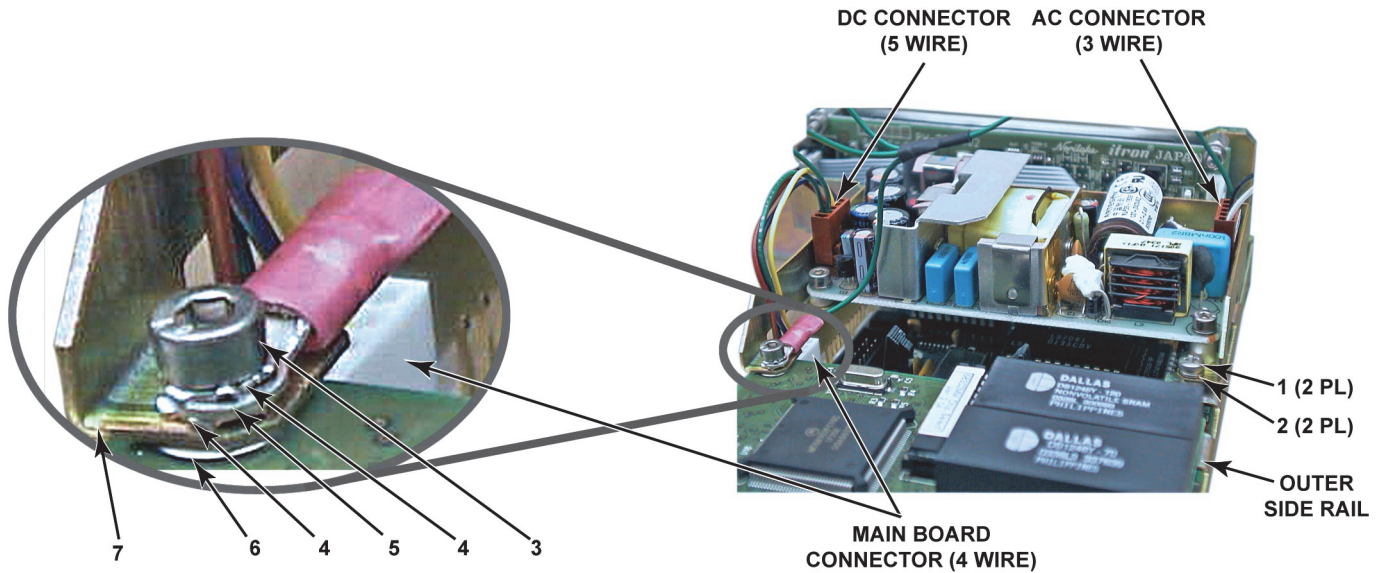
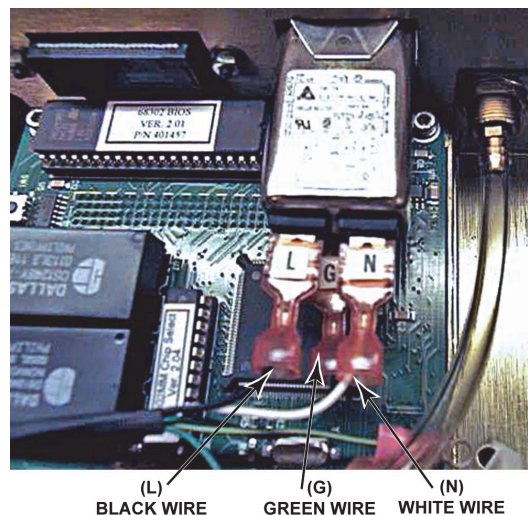

Figure 7. Power Supply Assembly Detail
Figure 8. Cable Assembly AC Receptacle Connections
- ❼ Attach the new mounting bracket to side rail 2 places using the M3 x 6 pan head screw and M3 lock washer. (See figure 7)
- ❼ Fasten the new mounting bracket and the AC/DC Cable Assembly grounding lug to the Mini-Micro board using the M3 x 10 screw, M3 flat washer, and two M3 external tooth lock washers (see Figure 7).
- ⑩ Install new AC/DC cable (see Figure 7). The AC connector plug (3-wire) must be installed to the Power Supply connector marked J1 adjacent to the outer side rail. The DC plug (5-wire) connects to Power Supply connector J2. The DC Plug (4 wire) connects to the Main Board connector marked P1. The remaining 3 single wire slip-on connectors attach to the AC receptacle on the rear panel as shown in Figure 8.